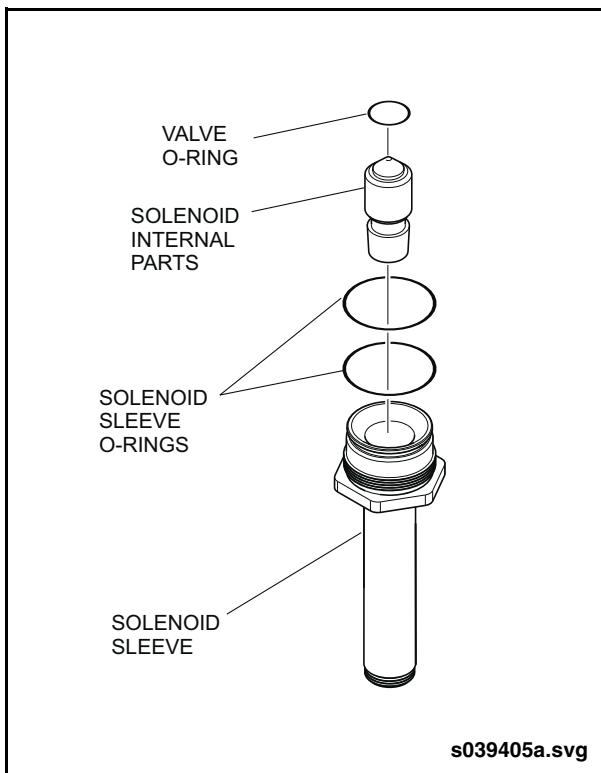

Fig. 7-10: Solenoid Sleeve and Internal Parts
- d. Take out the solenoid internal parts. See "Fig. 7-10: Solenoid Sleeve and Internal Parts" on page 29.